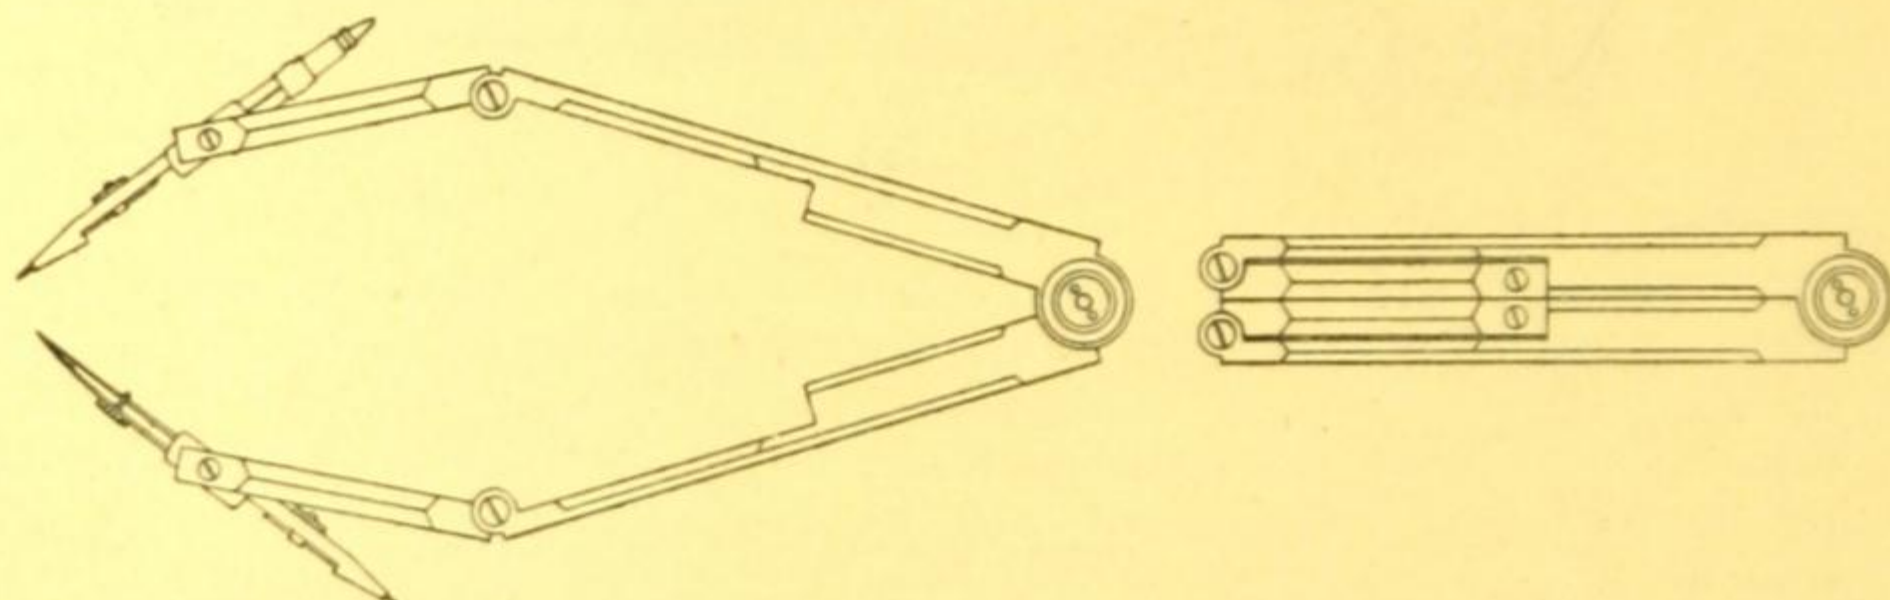

Fig. 171. Napier Compass open and closed.
- SM 682.—**Napier Compass** forming a very compact pocket set of English electrum needle pointed instruments, comprising a  $4\frac{1}{2}$ -inch Compass with double knee joints and pen, pencil and divider points. When fully extended it will describe a circle 15-inches diameter, and when closed it is no larger than a pen knife  $2\frac{3}{4}$  inches long. With case Fig. 171 £2 5 0